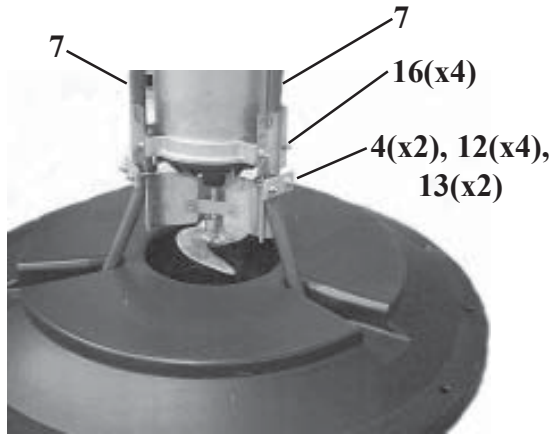

Figure 8
D. Placing Power Unit in Float. - see Figure 8
E. Installing remaining Support Arms - see Figure 8&9
2. Attach each of these arms to the mounting ring with (2) 1/4" flange nuts. Use the second set of holes down from the top of the support arm. Torque to 10-12 ft-lbs.
4. Attach the bottom of the support arms to the support arm brace with (1) 5/16" locknut, (1) 5/16" flat washer, and (1) 5/16" hex bolt for each of the three arms. Torque the bolts to 15-17 ft-lbs.